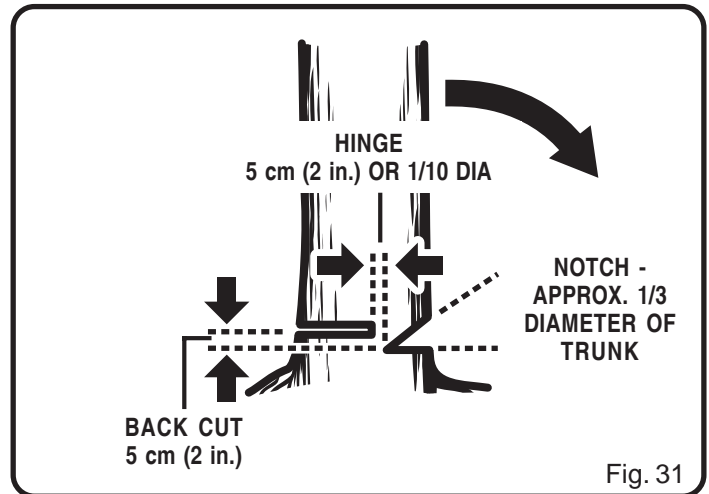

Fig. 31
3. Cut a notch about one-third the diameter of the trunk in the side of the tree. Make the notch cuts so they intersect at right angles to the line of fall. This notch should be cleaned out to leave a straight line. To keep the weight of the wood off the saw, always make the lower cut of the notch before the upper cut. See *Figure 31*.
4. Make the back-cut level and horizontal, and at a minimum of 5 cm (2 in) above the horizontal cut of the notch. See *Figure 31*.